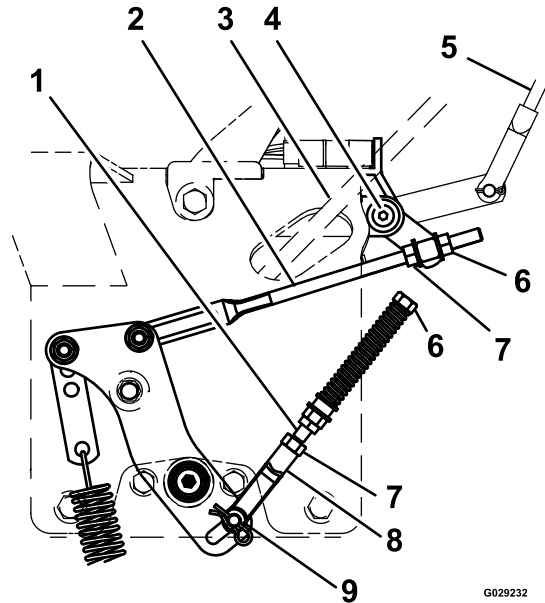

Figure 17
- Loosen the nut against the neutral control linkage yoke as shown in Figure 17.